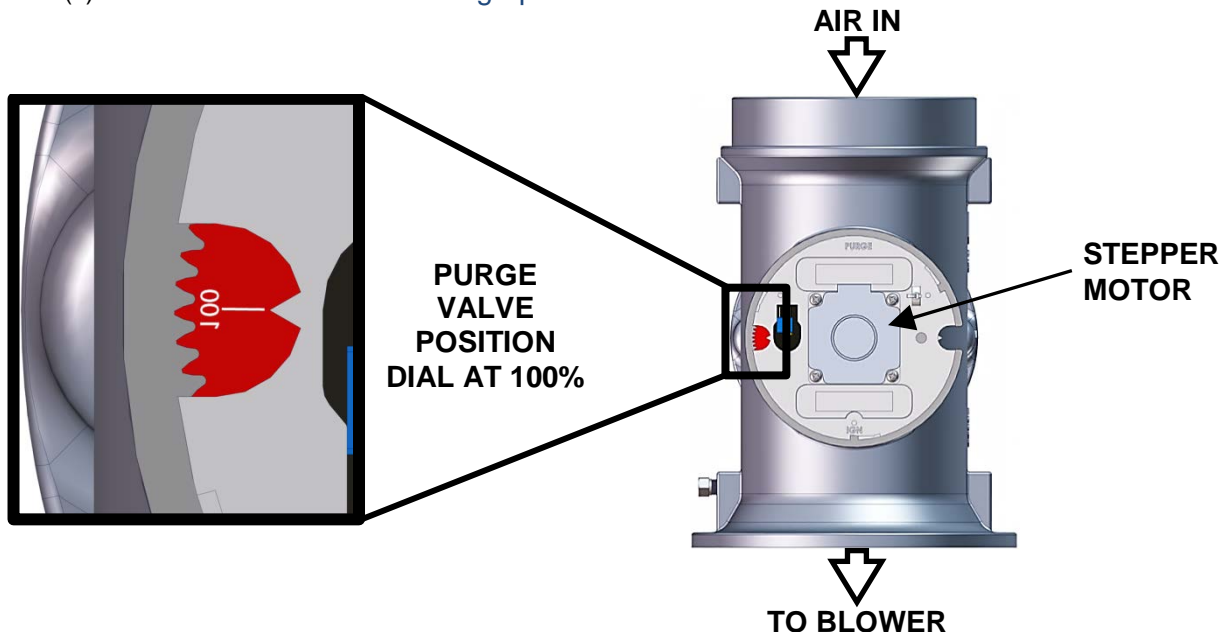

Figure 3-4. Air/Fuel Valve In Purge Position
- (b) The Air/Fuel Valve rotates to the full-open purge position and closes purge position switch. The dial on the Air/Fuel Valve (Figure 3-4) will read **100** to indicate that it is full-open (100%).